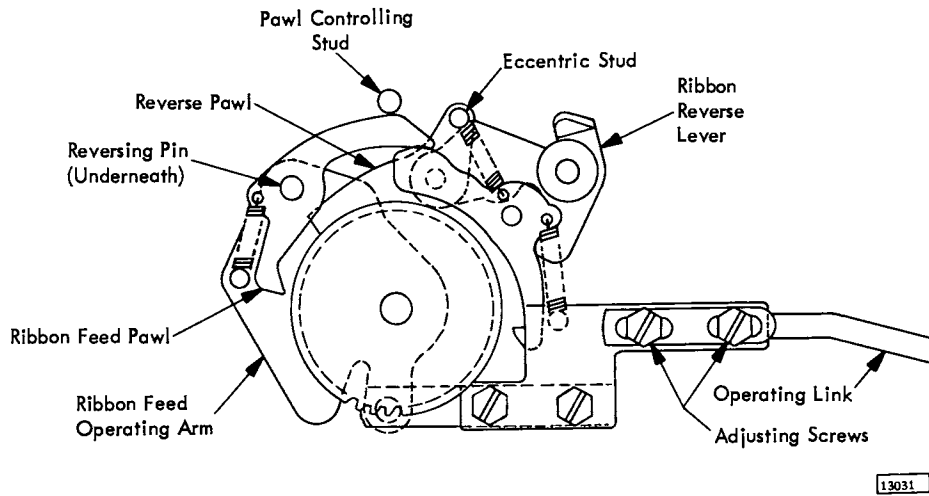

Figure 4-12. Ribbon Feed - Left Hand
1. Stroke length has already been adjusted. Properly position the stroke by adjusting the length of the operating link (Figure 4-12).